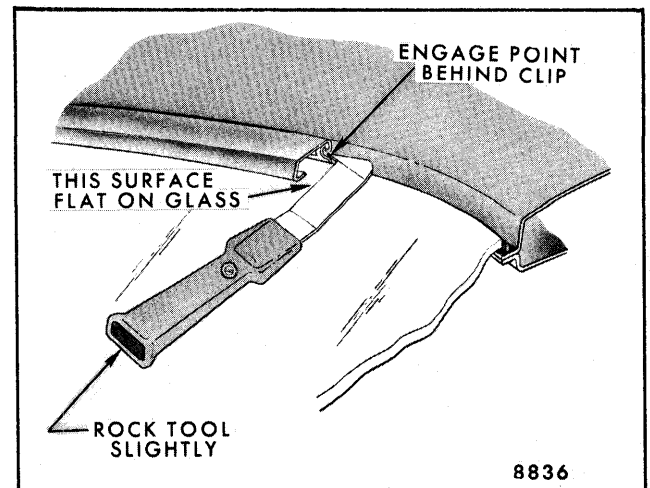

Fig. 11-3-Reveal Molding Tool
2. Rock the tool slightly to permit easier disengagement (Fig. 11-3).